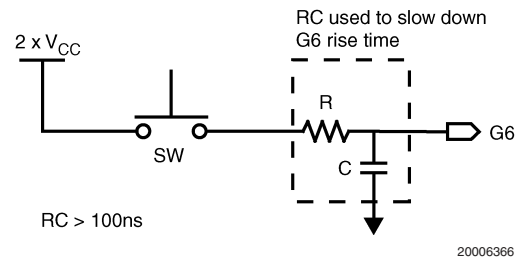

FIGURE 13. Circuit Diagram for Implementing the $2 \times V_{CC}$
4. After V_{CC} is valid and stable, connect a voltage between $2 \times V_{CC}$ and $V_{CC}+7V$ to the G6 pin. Ensure that the rise time of the high voltage on G6 is slower than the minimum in the Electrical Specifications. *Figure 13* shows a possible circuit diagram for implementing the $2 \times V_{CC}$. Be aware of the typical input current on the G6 pin when the high voltage is applied. The resistor used in the RC network, and the high voltage used, should be chosen to keep the high voltage at the G6 pin between $2 \times V_{CC}$ and $V_{CC}+7V$.